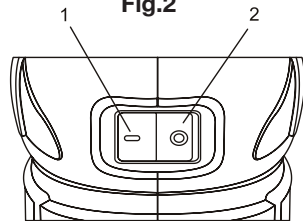

Fig. 3
To turn the switch ON, press the left hand side of the switch (1) (Fig. 3). To turn the switch OFF, press the right hand side of the switch (2).